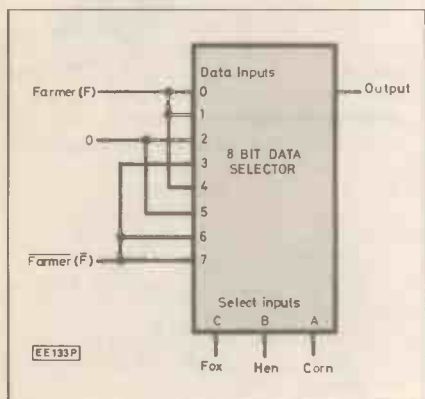

Fig. 2. 8-bit data selector.
A more economical solution using an 8-bit data selector is shown in Fig. 2. In this case there are just three select inputs: these are chosen to correspond to the hen (input B), the corn (input A), and the fox (input C). By referring to the truth table of Table 1, the correct logic level to be connected to each of the data inputs can be determined and a revised truth table (Table 2) can be drawn up.
The appropriate logic levels for the other data inputs are chosen in a similar way. Depending on the desired truth table, some inputs are permanently connected to logic 0, or to logic 1. The remaining data inputs will then be connected either to the logic level for the variable F, or to its inverse, \bar{F} . In this case, three of the inputs are connected to farmer (F). In two cases (data inputs 2 and 5), the output is 0 whichever side of the river the farmer is. This corresponds to the (safe) situation in which the fox and the corn are together without supervision on either side. Hence these two data inputs can be connected directly to 0—see Figs. 2 and 3.